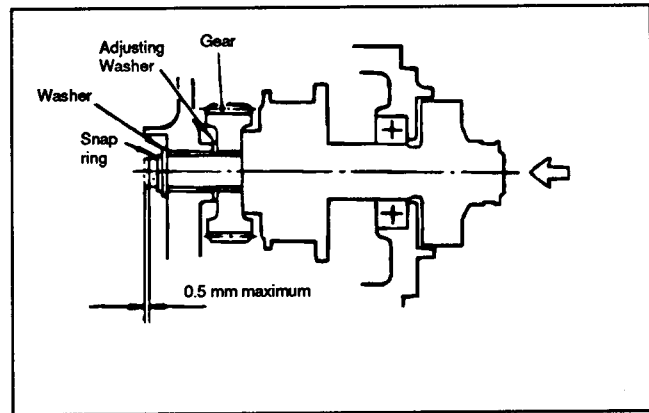

Figure 50
2. Set the pinion shaft end play (thrust gap) to 0.5 mm (0.02 in.) or less by inserting an adjusting washer between the center bracket and reduction gear (Fig. 50).